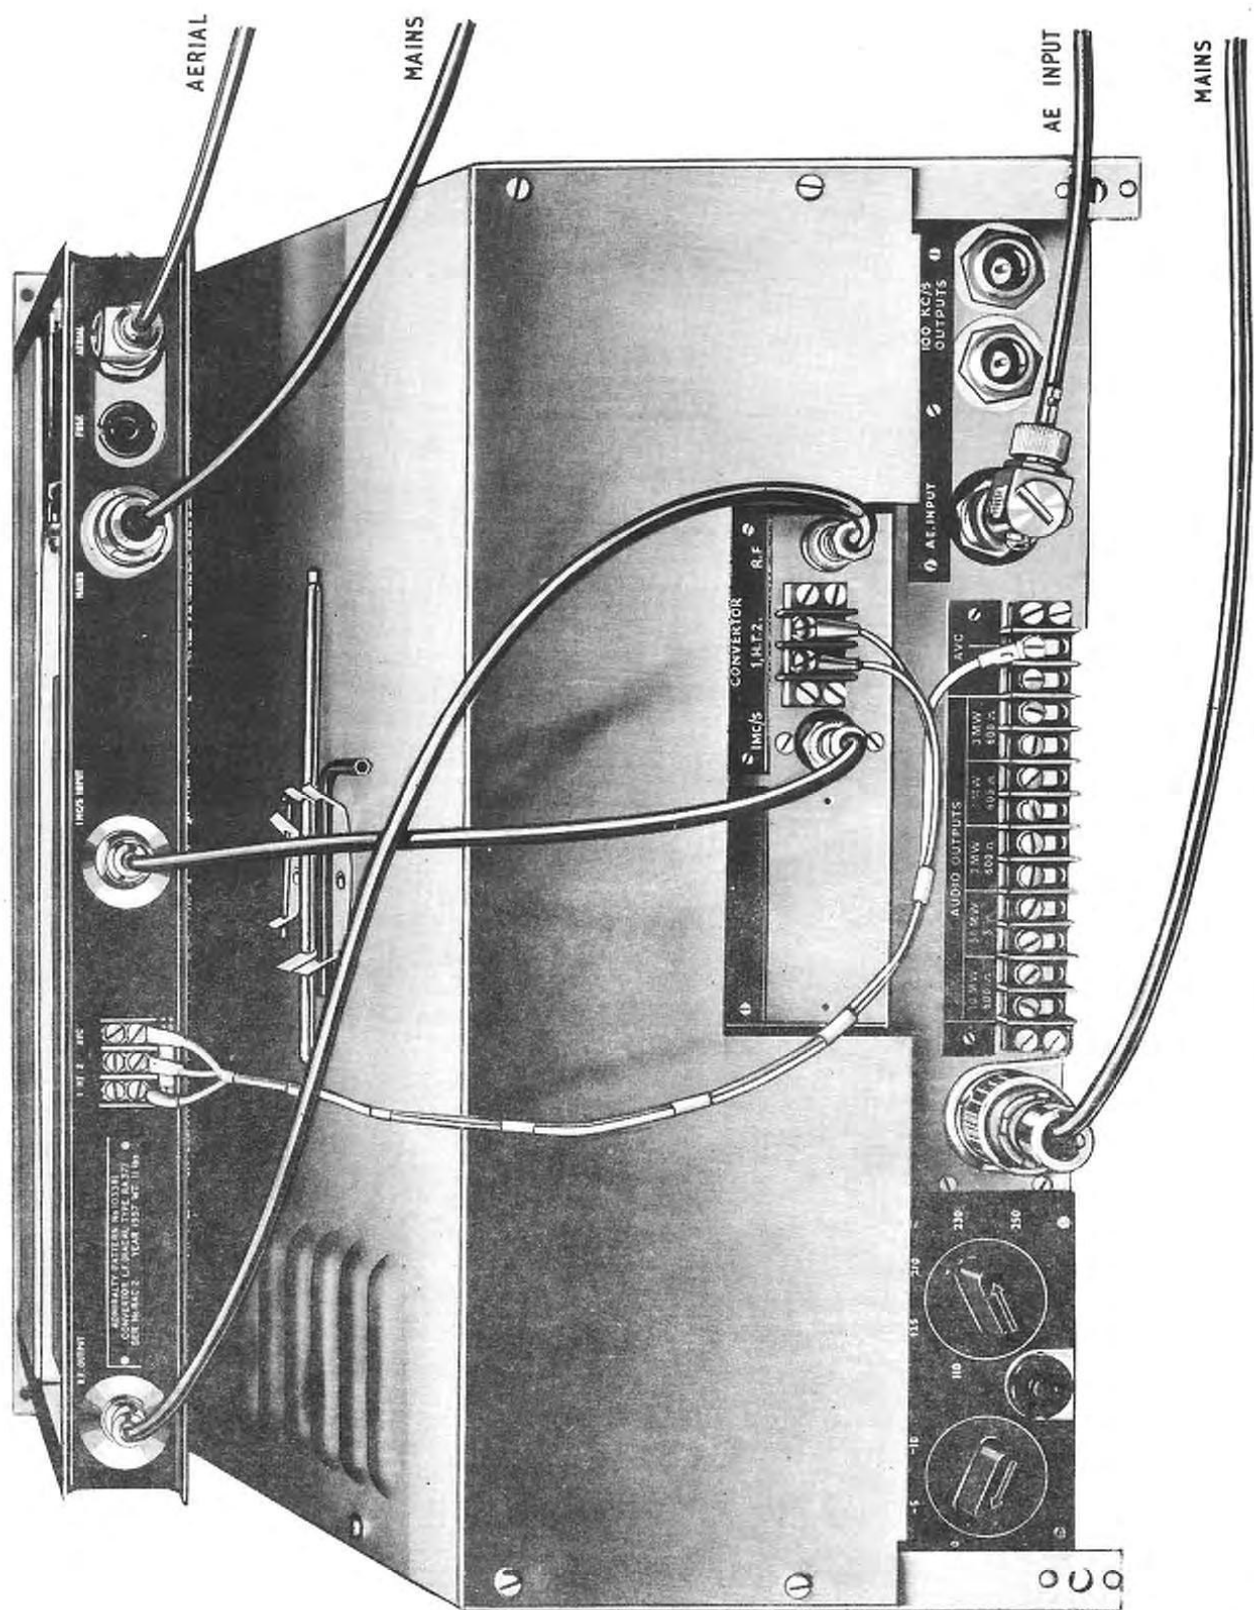

Fig.1
5. The following connections between the RA. 137 and the RA. 17 (fig. 1) should be made with the connectors supplied:-